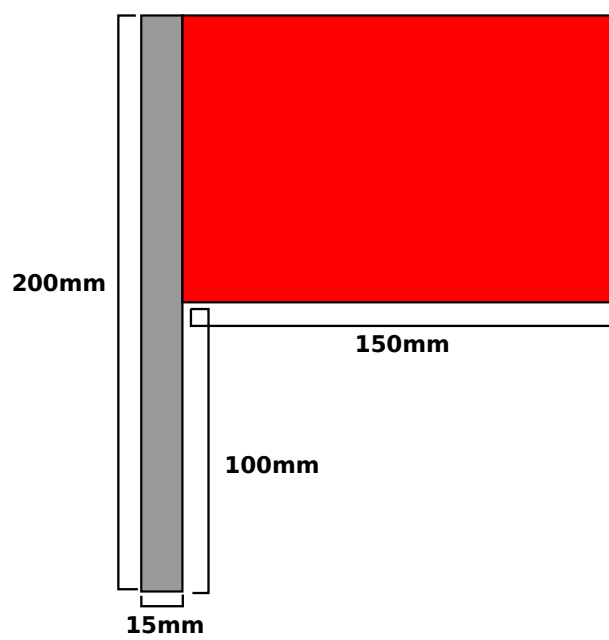

Figure 1: An example robot flag.
3.2.3 The identifying area will be attached to the top $100mm \pm 10mm$ of the mounting cylinder, with a width of $150mm \pm 10mm$, as described in figure 1.